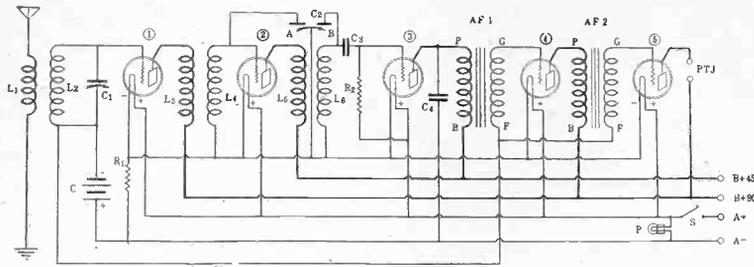

FIG. 307
Fig. 307 shows the diagram. The controls are kept down to two by using a 2-section condenser. This has one rotor but two separate stators. Each stator (A and B) has .0005 mfd. maximum capacity. A common C battery is used for the first RF and two audio tubes. This is about 4½ volts. A single ballast may control all tubes, which, if of the -01A type, would require the 1¼ ampere type. L1L2 is wound on a 3½" diameter tubing. Use No. 24 double cotton covered wire. L1 has 12 turns. Leave ¼" space and wind 47 turns for L2. L3L4 and L5L6 are wound alike. L3 has 5 turns, ¼" space, and L4 has 47 turns. Repeat formula for L5L6. The "skinny primaries" are for oscillation control, otherwise some balancing means must be employed. C1 is .0005 mfd., C2 is .0005 for A and B sections, individually; C4 is .0005 or .001 mfd. AF1 is of low ratio, while AF2 may be higher. The same ratio may be used in both stages, but where you have unlike ratios, place the higher ratio in the first stage. PTJ represents phone tip jacks at the rear of the baseboard. Drill two holes in the rear wall of the cabinet to introduce the speaker cords. SP is a combination switch and pilot light. R1 is a ¼ ampere ballast, R2 is 5 meg., C2 is .00025 mfd. The tubes are (1) first RF; (2) second RF; (3) detector; (4) first audio; (5) second audio. A 7x24" panel should be used. On it are only the two dials and the pilot switch. The only subs are balancing the set, solved by the two small primaries, and matching L4 and L2.